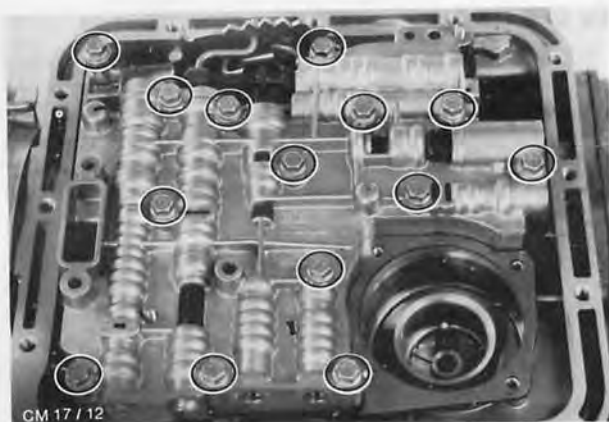

Fig. 70. Valve body bolts
- Remove bolts (14) from valve body, Fig. 70. Raise valve body slightly and move it sideways so that selector lever connecting link slides out of manual selector stick. Remove valve body and gasket.